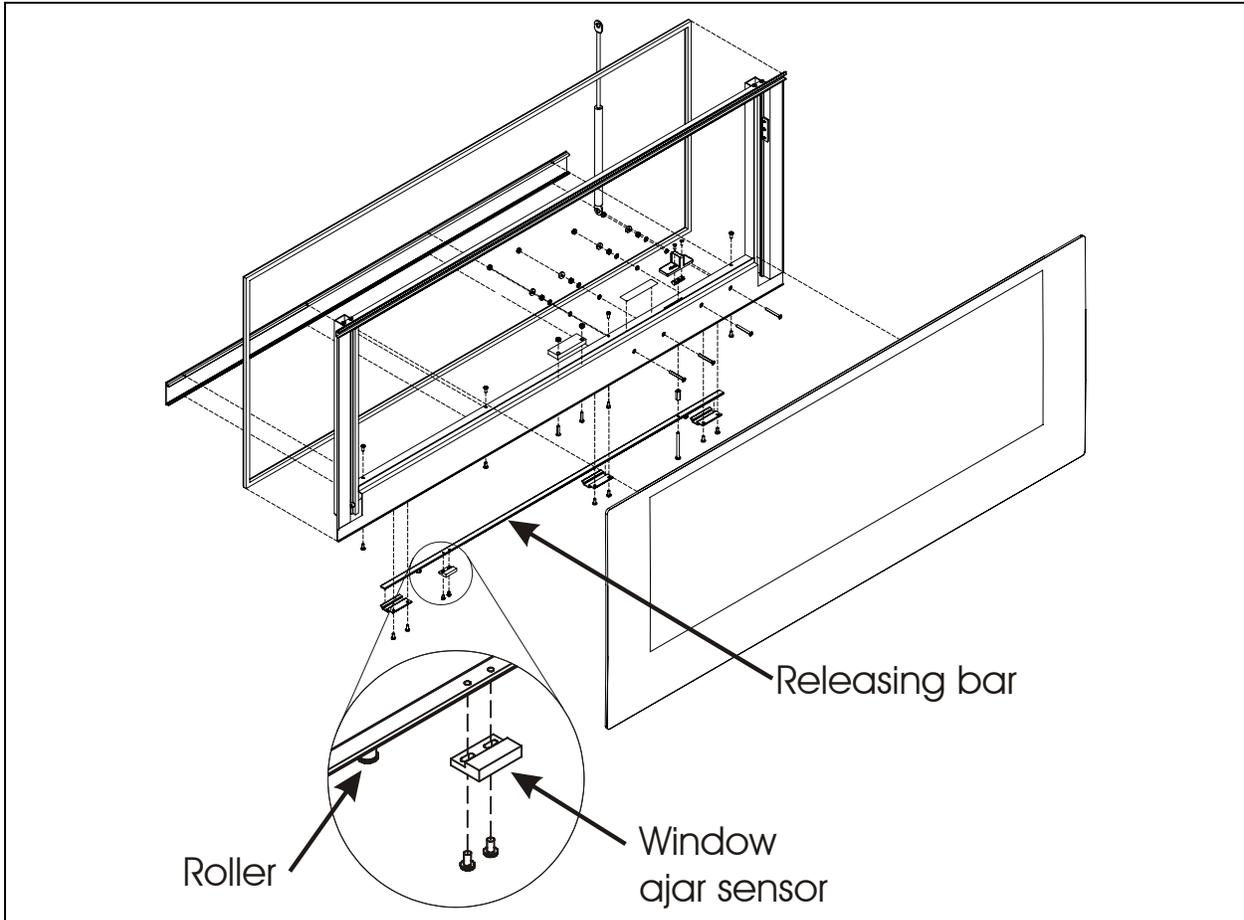

FIGURE 5: WINDOW AJAR SENSOR ADJUSTMENT (ref. step 14)
14. If necessary, adjust the window ajar sensor so that the signal is given just as the roller passes the detent of the keeper when unlatching (figure 5). Loosen the sensor fasteners and slide the sensor as required. Retighten fasteners.